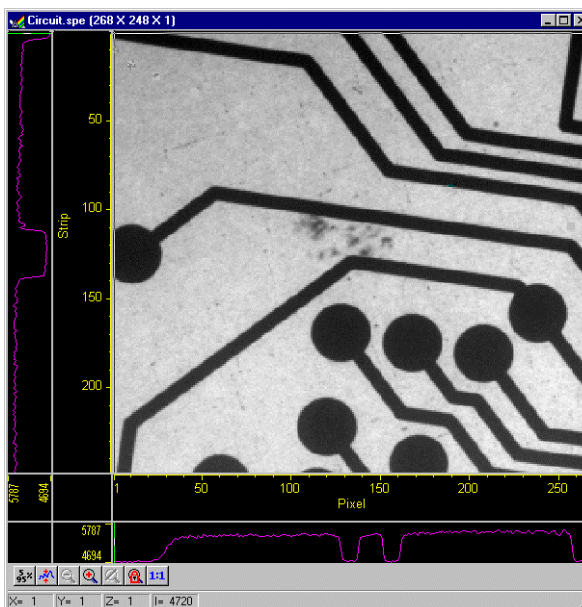

Figure 105. *Circuit.spe with axes and cross-sections*
5. The display should now appear as shown in Figure 105. The axes will be labeled in image pixels and strips with respect to the CCD chip used to acquire the image. The vertical image intensity profile at the cursor position will be displayed to the left and the horizontal image intensity profile at the bottom. The minimum and maximum values for each profile are indicated. Note that you can use the mouse and drag the axes and profile boundaries to change the size of the profile display regions. To change the cursor location simply click the mouse at the new